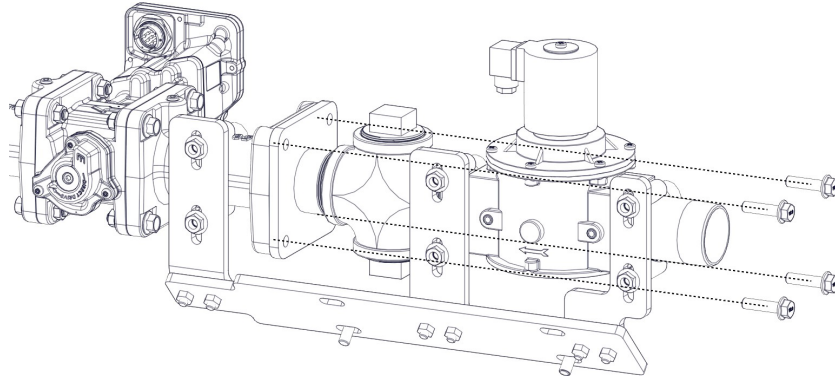

Figure 27.
7. Remove the four bolts on the fuel kit leading into the MFG Valve (Figure 27).